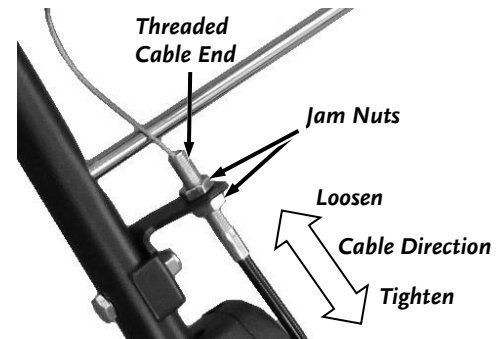

Figure 45
2. Adjust the Jam Nuts towards the end of the Cable to tighten the Belt tension or towards the sheathing of the Cable to loosen the tension of the Belt (**Figure 45**).